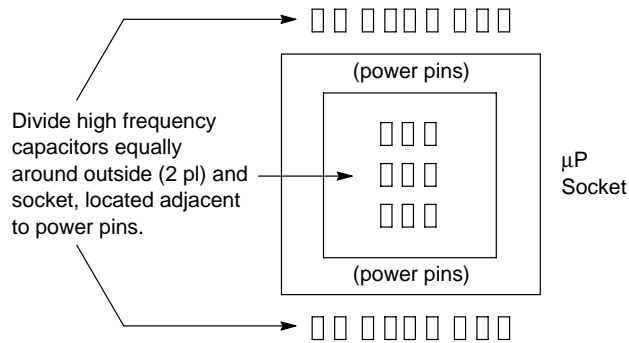

Figure 15. High Frequency Capacitor to Socket Placement
1. All high frequency capacitors should be located as close as possible to the μ P socket. This includes placing of components “inside” of the socket. Figure 15 details the approach for this.